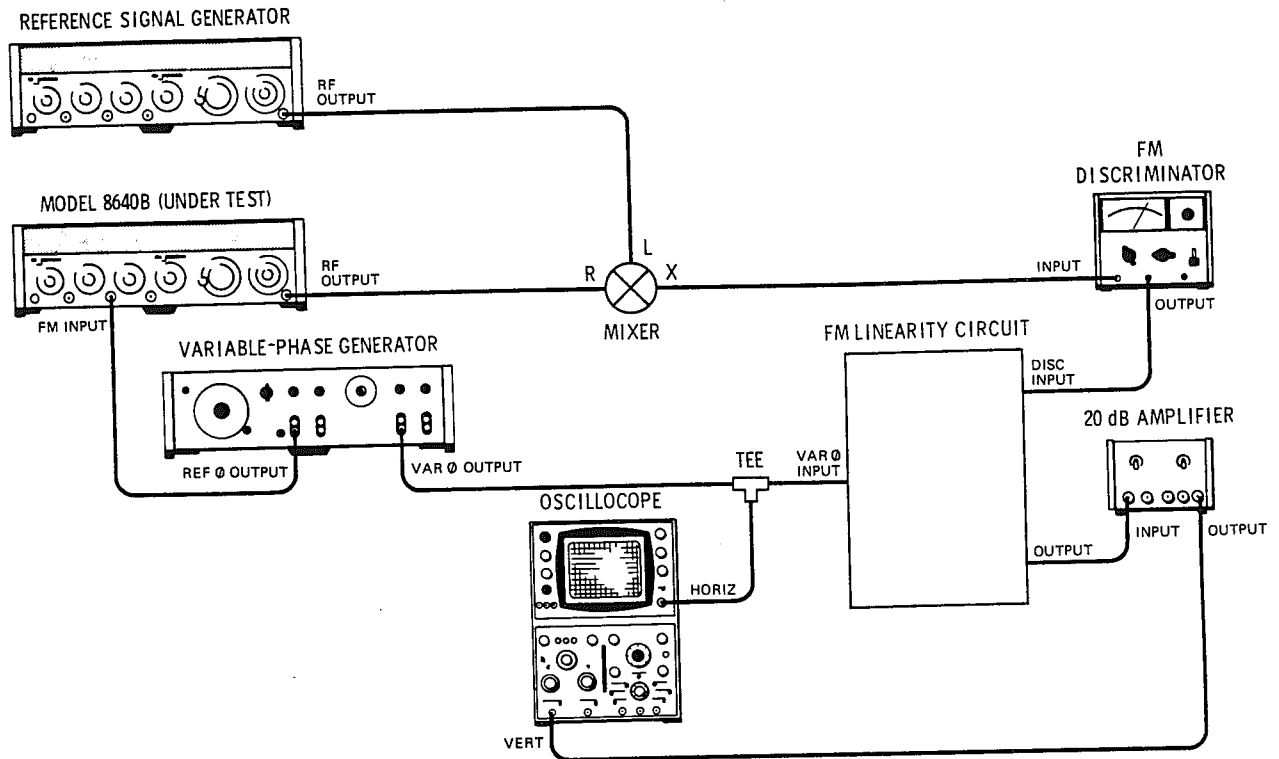

Figure 5-7. FM Linearity Adjustment Test Setup
1. Connect equipment as shown in Figure 5-7 after setting Signal Generator's controls as follows: